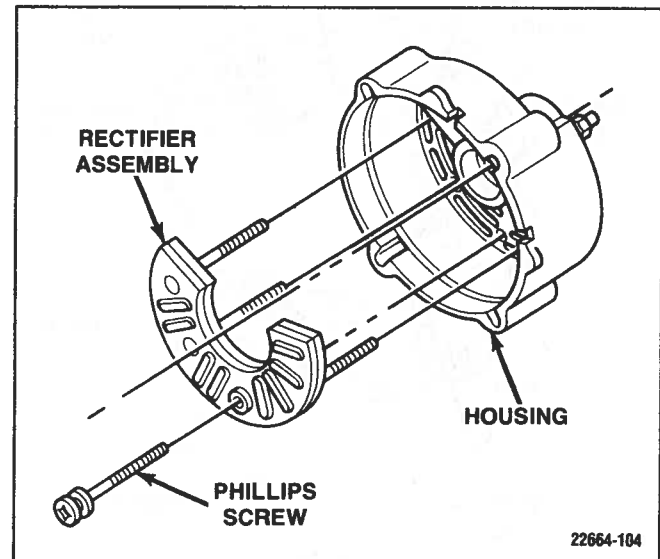

Figure 6-129. Rectifier Removal
16. Remove rectifier assembly by removing Phillips screw and lifting out assembly. (Figure 6-129)